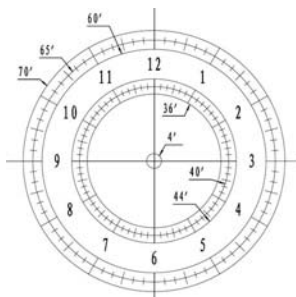

Figure 13
- d. Use the “◀” or “▶” button to turn the RA axis to rotate the Polar Scope dial to a clock position where 12 is at the top, as shown in Figure 13.